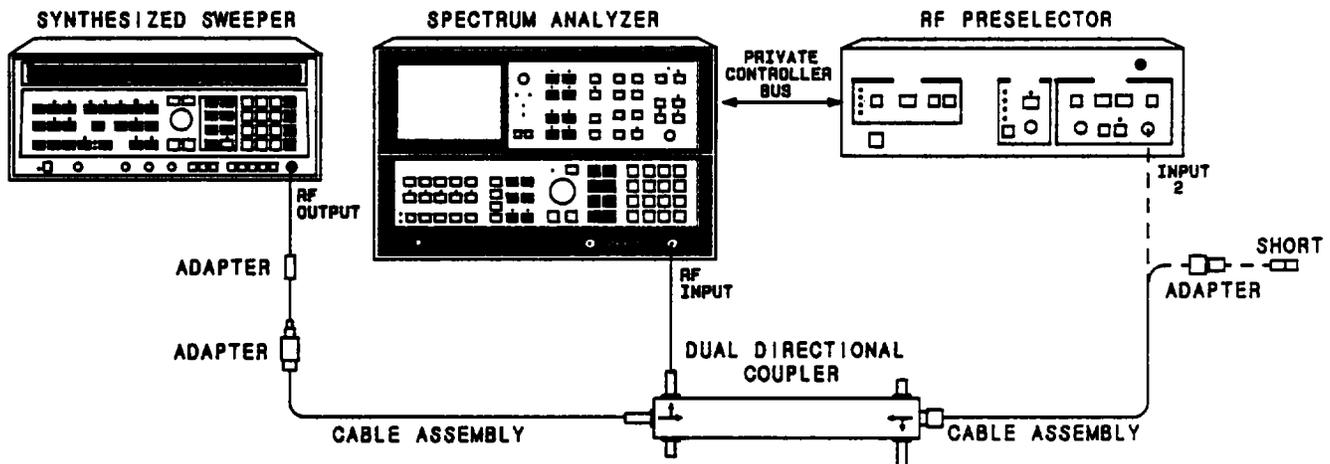

Figure 3. SWR Test Setup Above 80 MHz
22. Connect equipment as shown in Figure 3, using the short.
30. Remove the short and connect Input 2 of the preselector to the dual-directional coupler. See Figure 3.